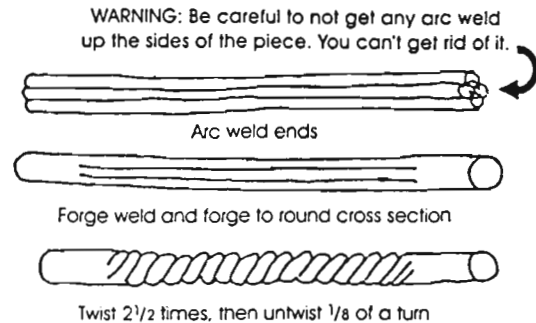

Figure 1.
1. Start by making a simple bundle of four pieces of $\frac{1}{4}$ " round about 8" long. Arc weld the ends and forge weld the bundle for $1\frac{1}{2}$ " on each end (Figure 1). Dorothy has a step-by-step procedure she uses to forge weld. She uses 20 Mule Team Borax as a flux.
2. After the bundle is welded, heat very evenly to an orange heat; twist clockwise $2\frac{1}{2}$ times. Make sure the twist is even. If any spots are too loose, use a torch to add heat to the loose areas and tighten evenly. (Figure 1).